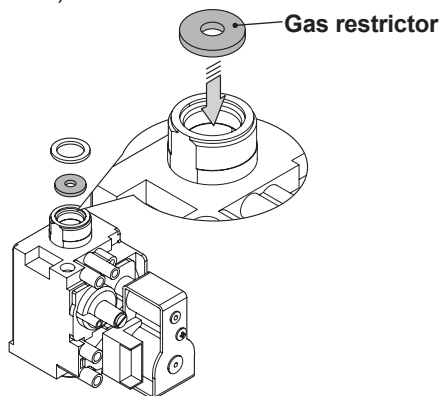

Fig. 9.2
- Carry out gas conversion by correctly replacing the gas restrictor (Fig. 9.2), referring to the "Technical Data" section (page 26 **ADVANCE 25C**, page 30 **ADVANCE 30C** and page 34 **ADVANCE 35C**).